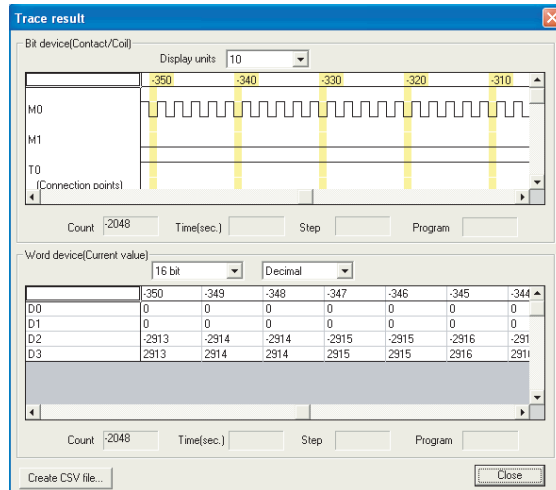

Figure 6.64 Trace result screen
- Click the Create CSV file button on the screen shown in Figure 6.64 to save the trace result in CSV format.